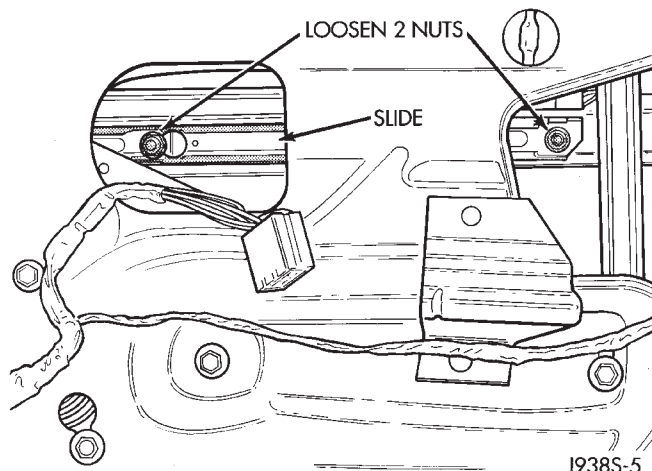

Fig. 8 Rear Door Window Track
- (1) Remove door trim panel and waterdam. If necessary, refer to removal procedure.
- (2) Position window glass to access window track nuts (Fig. 8).
- (3) Loosen 2 window track nuts and slide track off of window (Fig. 8).
- (1) Lower window glass.
- (2) Pry window beltline molding from flange. Remove molding from door.
- (3) Remove window weatherstrip seals from door.
- (4) Remove trim panel and waterdam from door inner panel. If necessary, refer to removal procedure.
- (5) Remove window track nuts and slide track off of window (Fig. 8).